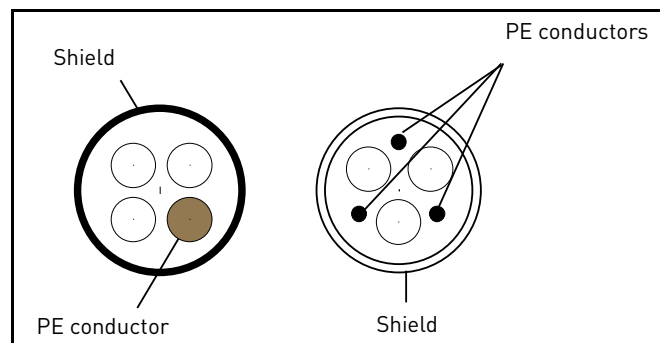

Figure 16. Example with three-phase cable.
- 2 = Symmetrical power cable equipped with concentric protection wire and intended for the specific mains voltage. (MCMK or similar recommended). See Figure 16.
- 3 = Symmetrical power cable equipped with compact low-impedance shield and intended for the specific mains voltage. [MCCMK, EMCMK or similar recommended; Recommended cable transfer impedance (1...30MHz) max. 100mohm/m]. See Figure 16.